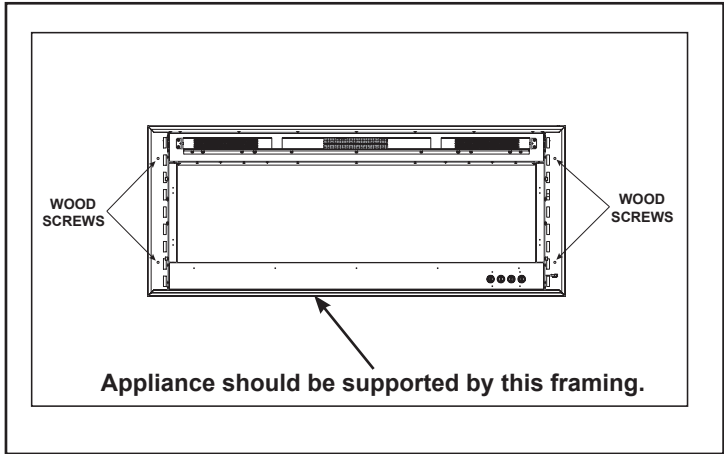

Figure 4.7 Securing the Appliance with Skirt
2. Install the appliance into the opening (See Figure 4.7). Level the appliance. Ensure that it is centered left to right, then fasten it directly to the framing with two (2) ST4X25 wood screws in both the left and right sides of the skirt. See Figure 4.7.